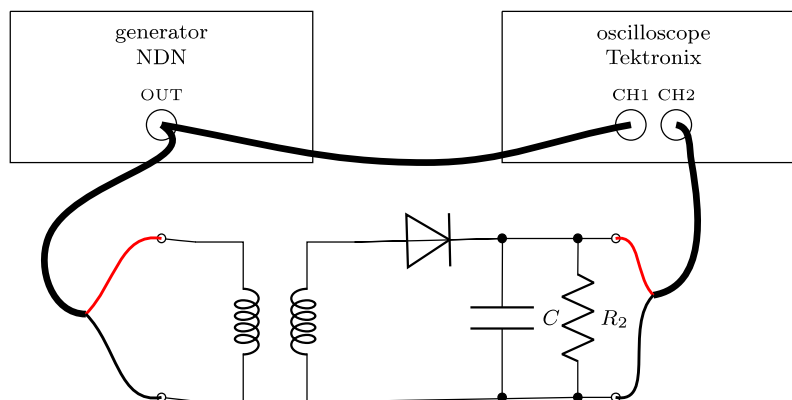

Figure 17: Single-pulse, unidirectional system with a filtering capacitor
**Note.** For the circuit shown in Figure 17 and 18, record the waveforms for the two capacitance values of the  $C$  capacitor.